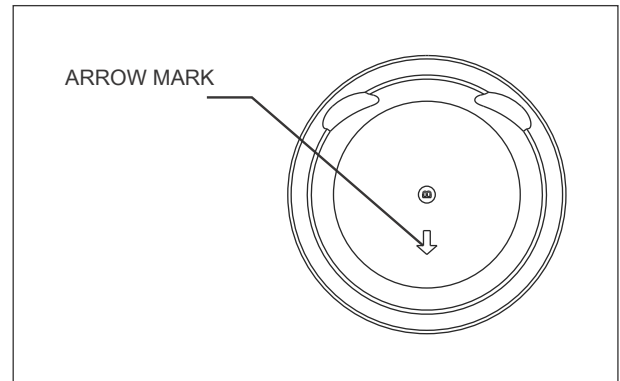

Fig. 3.100
- ▮ Assemble the piston in such a way that the arrow mark indicated in the piston crown should face towards the exhaust port of the cylinder. (Fig. 3.100)